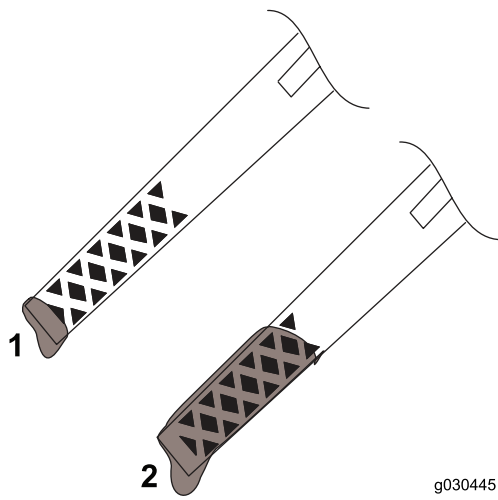

Figure 20
- A. Remove the dipstick and slowly pour oil into the oil-fill tube to raise the oil level to the Full mark on the dipstick (Figure 20). **Do not overfill.**